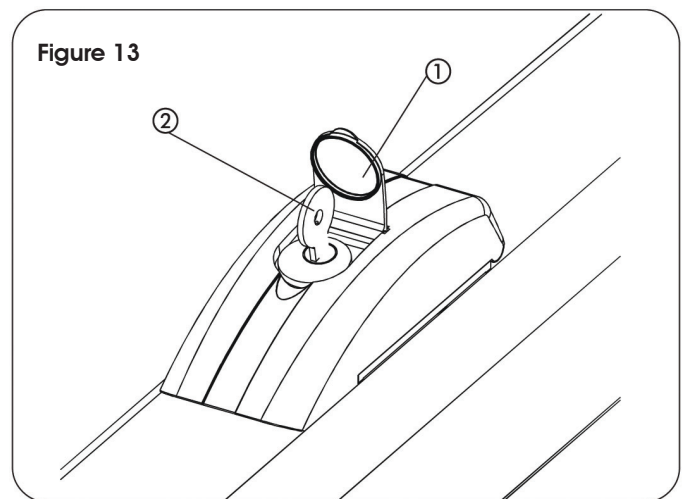

Figure 13
- Lift the protective cap (Fig. 13, Ref. 1) and insert the supplied key (Fig. 13, Ref. 2).
- Turn the key 90° clockwise to open the cover.